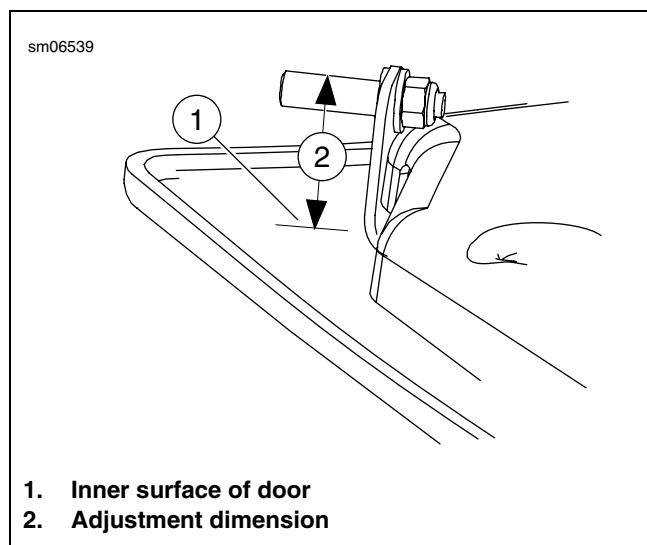

Figure 3. Adjust Latch Pins
1. See Figure 3. Adjust the latch pins to 1.5 in. (38.1 mm) from upper edge of pin to the inner surface (1) of the door. Use a dial caliper to measure distance (2) near the end of the latch pin. Tighten nuts to 60-72 in-lbs (6.8-8.1 Nm).
2. Slowly close the door until the latch pins contact the latches. Both latch pins should contact the latches at approximately the same time. If necessary, reduce dimension (2) of the pin that contacted first until both pins contact at the same time.